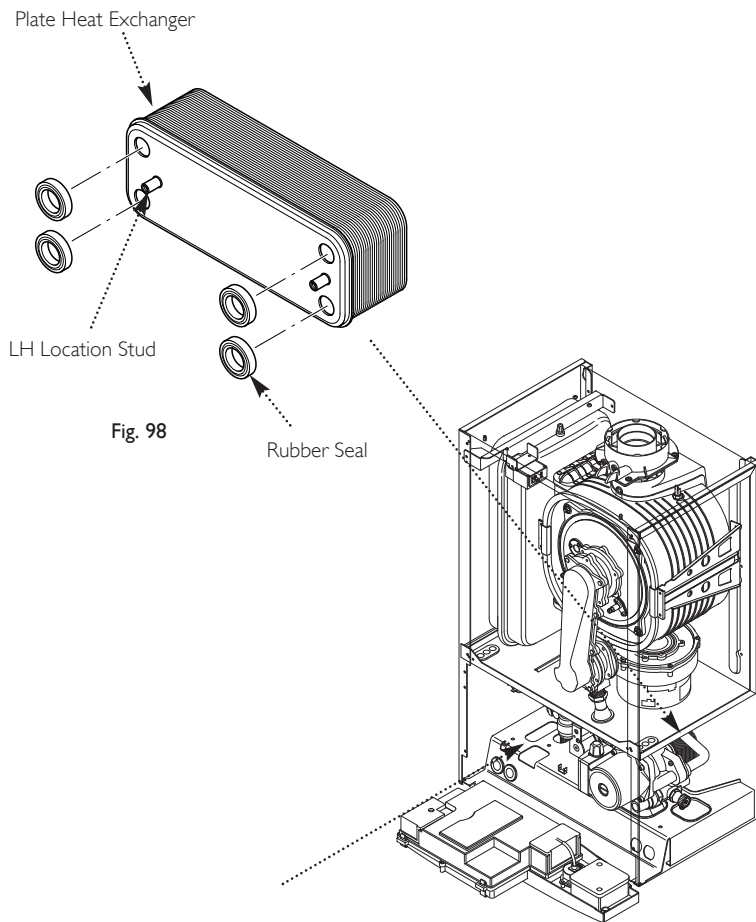

Fig. 98
14.20 Plate Heat Exchanger (Fig. 98)